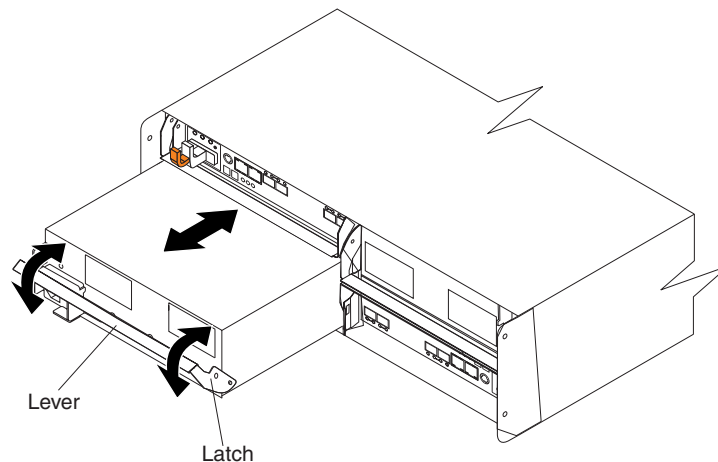

Figure 21. Replacing a power supply and fan unit
1. Slide one power supply and fan unit into the storage subsystem. Be sure to replace the power supply and fan units so that the lever on each power supply and fan unit opens toward the interior of the storage subsystem, as shown in Figure 21. Do not force fit. The power supply and fan unit is designed to prevent it from being inserted into the chassis incorrectly.
Attention: Be sure that the lever is pulled straight out as you slide the power supply and fan unit into the storage subsystem, as shown in Figure 21. The left and right power supply and fan units are seated in the DS3950 chassis in opposite orientations. If you cannot fully insert the power supply and fan unit into the power supply and fan unit bay, flip it 180° and reinsert it.